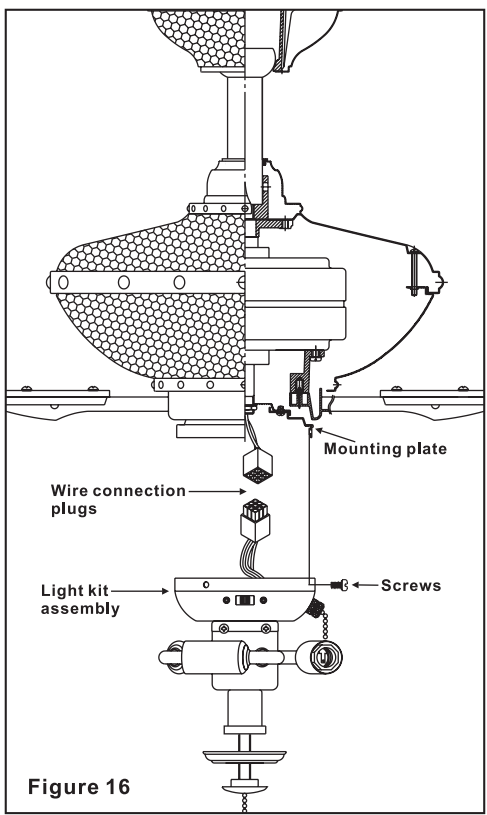

Figure 16
2. While holding the light kit assembly under your fan, snap together the wire connection plugs. (Fig. 16)
3. Carefully push all wires back into the light kit assembly, then install the light kit assembly onto the mounting plate with 3 screws. (Fig. 16)